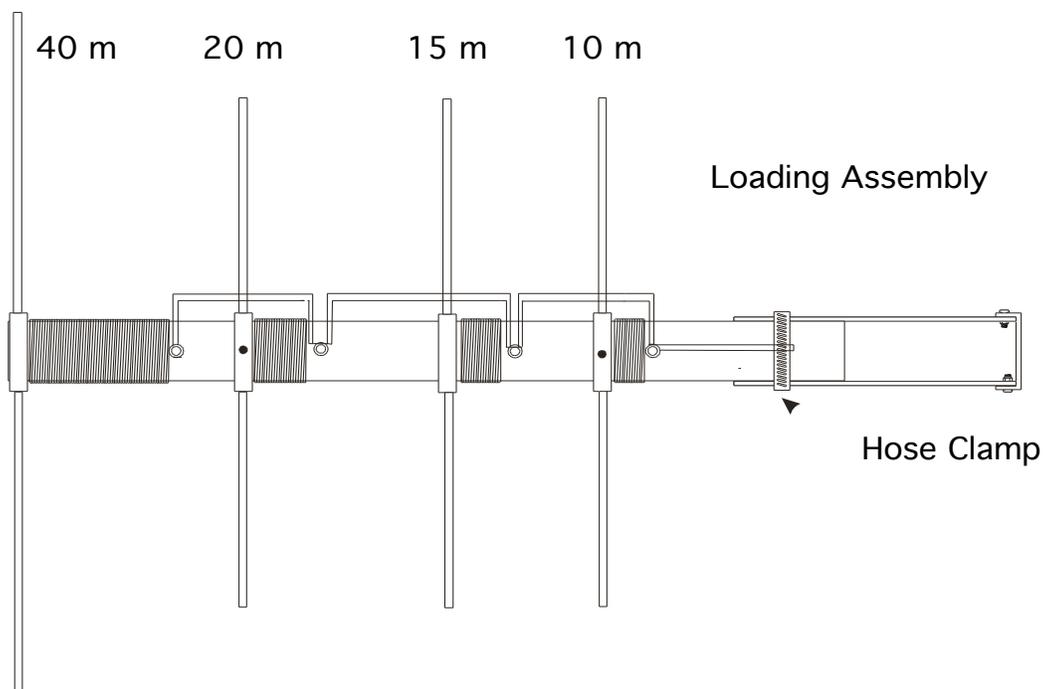

Figure 4
- [] 13. Slide a hose clamp over the top radiator. Mount the top coil assembly to the antenna by inserting the fiberglass insulator in the top radiator. Tighten the metal strap from the coil assembly under the hose clamp. See Figure 4.